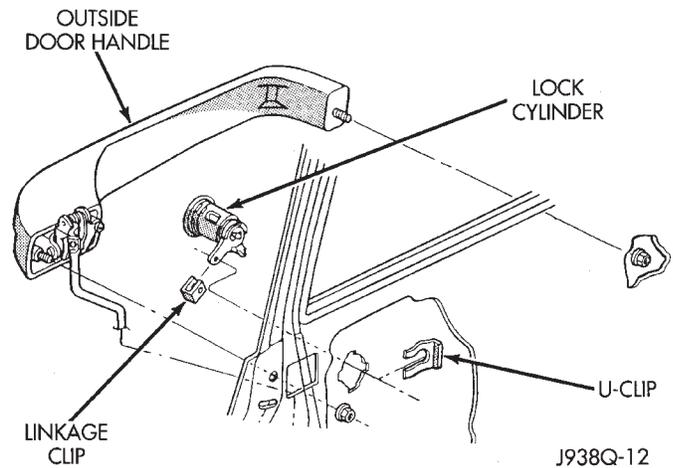

Fig. 7 Door Lock Cylinder Remove/Install
(8) Pull the front door trim panel away from the inner door panel far enough to access and unplug the wire harness connectors from the door module and, if the vehicle is so equipped, from the front door courtesy lamp.
(9) Pull the watershield away from the rear access holes in the front door inner panel.
(10) Remove the U-clip retainer that secures the lock cylinder to the outer door panel (Fig. 7).